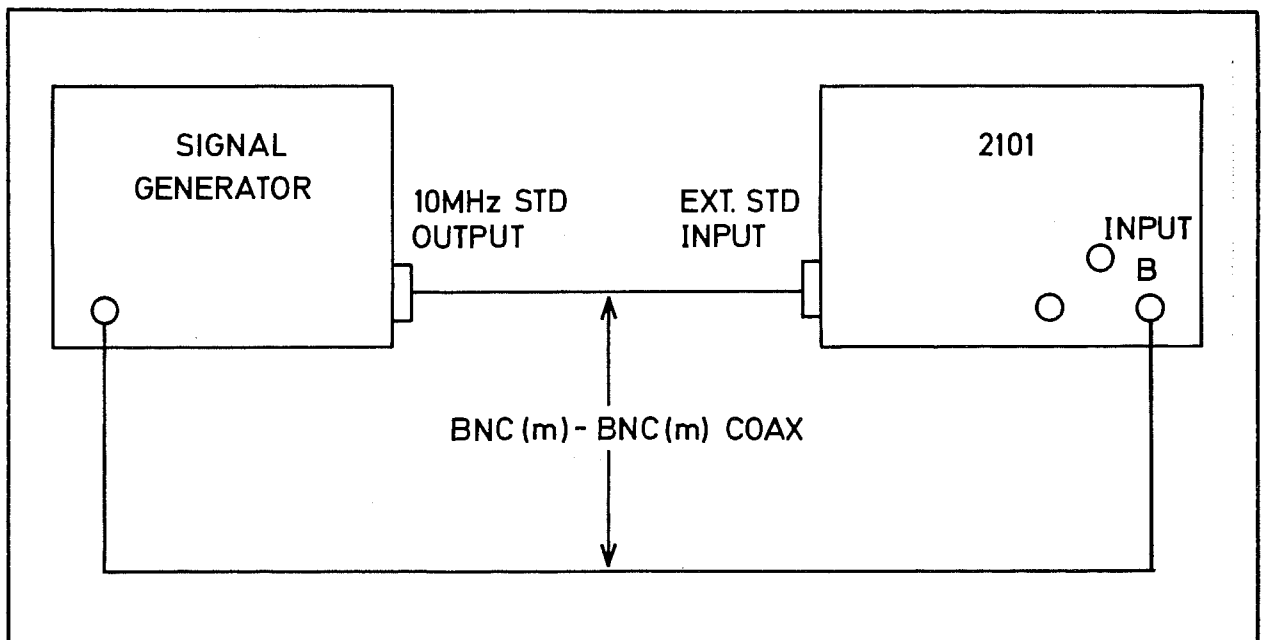

Fig. 7.21 Connection for Input B Sensitivity PVP
83 (1) Connect the equipment as shown in Fig. 7.21. Check that the EXT STD indicator is lit.